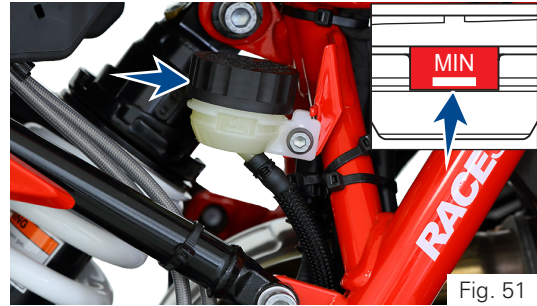

Fig. 51
- Turn the adjuster in (6) 'in' or 'out' until the specified play is obtained and then tighten the lock nut and check the adjustment once again (ref. Fig. 51).
- Inspect the oil level of both front and rear brake fluid reservoirs (ref. Fig. 50 & Fig. 51).